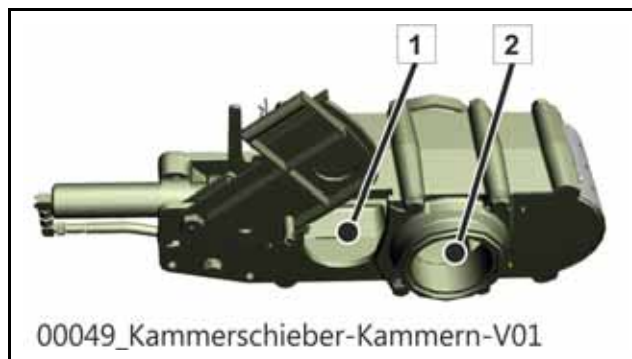

Fig. 516
- Clean the chambers (1+2) (**Fig. 516**) and the exterior of the chamber valve with water.